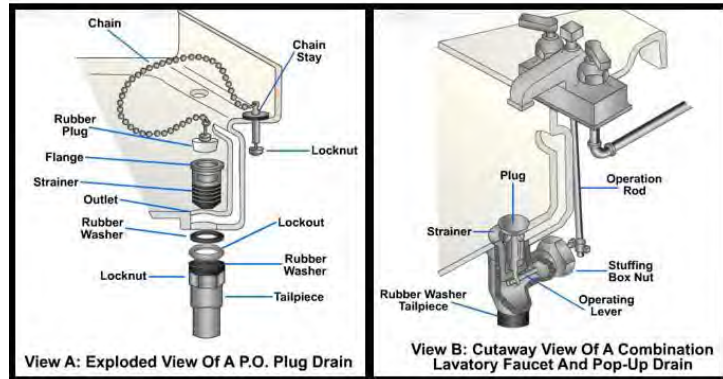

Figure 6-14 – Lavatory drains.
4. Install the permanent opening (P.O.) plug drain, as shown in *Figure 6-14, View A*, or the pop-up type of drain, as shown in *Figure 6-14, View B*.